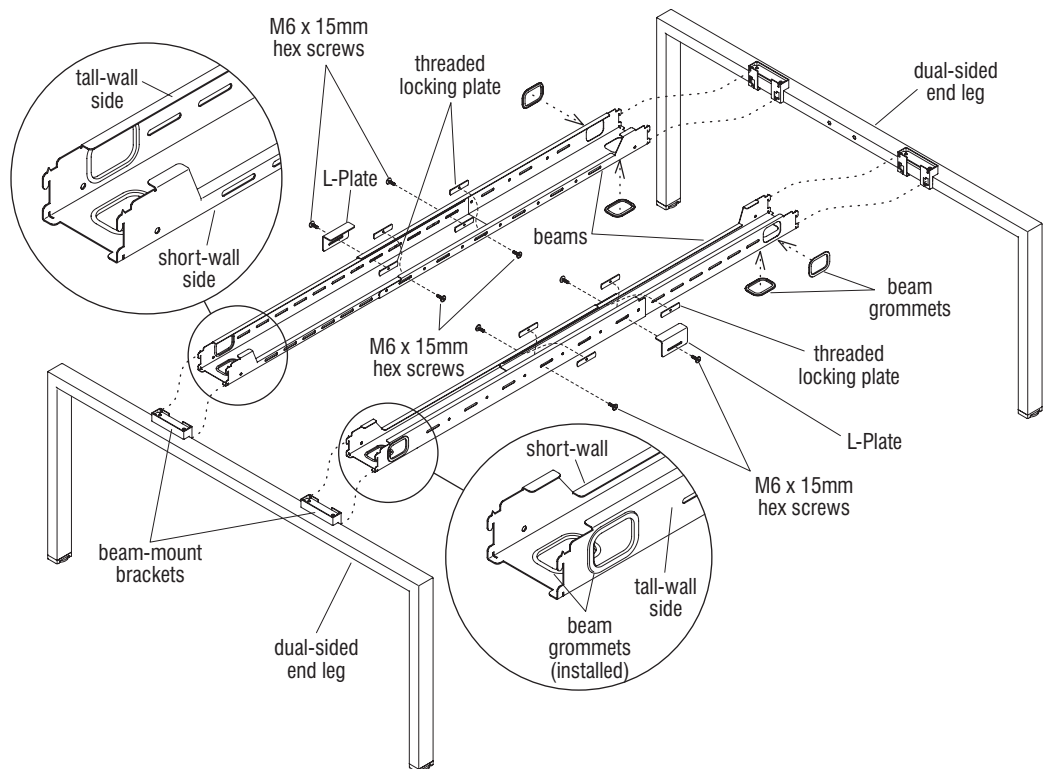
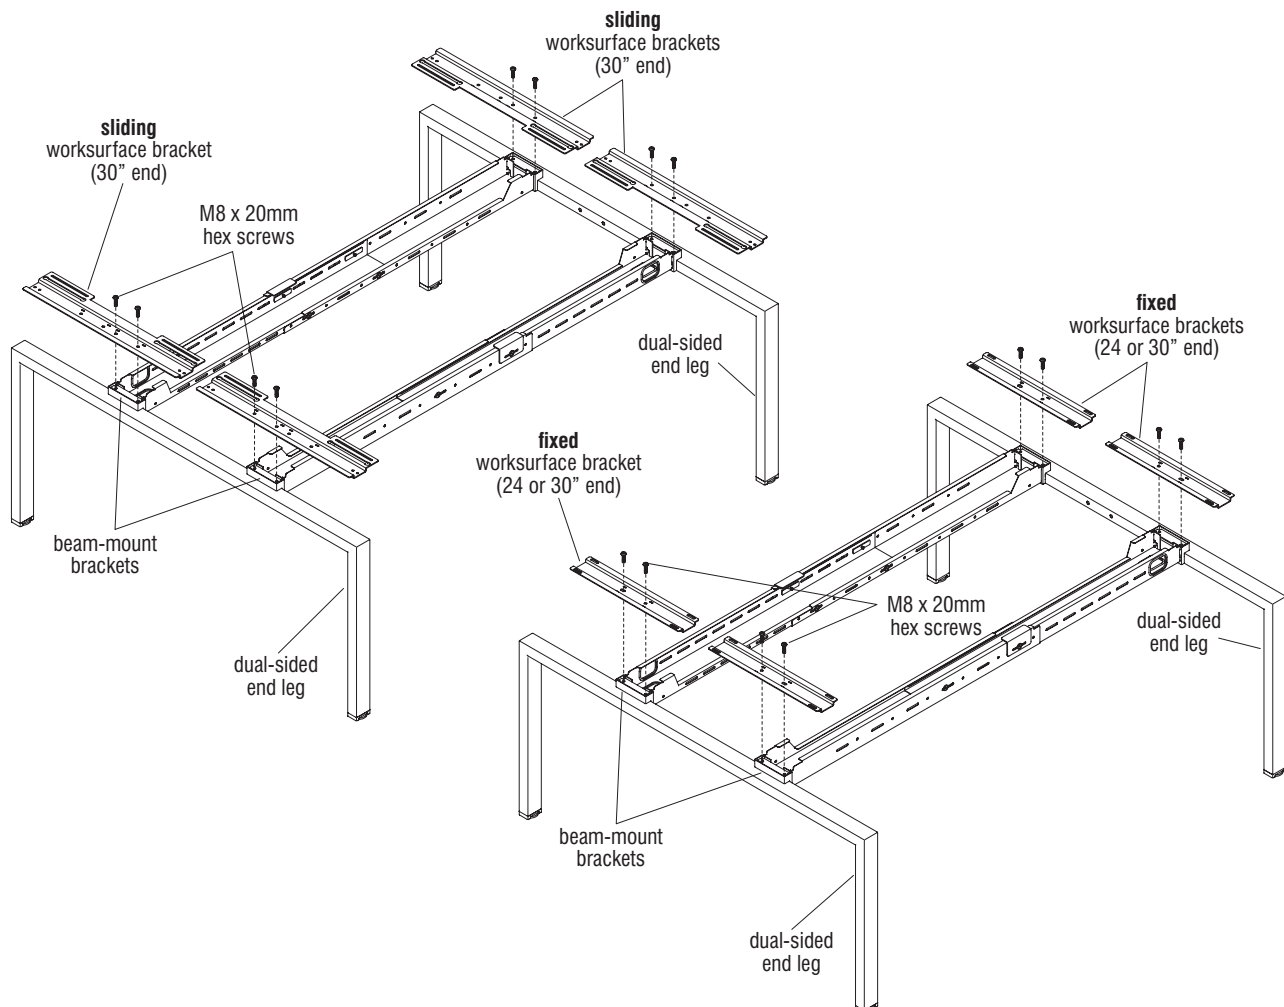
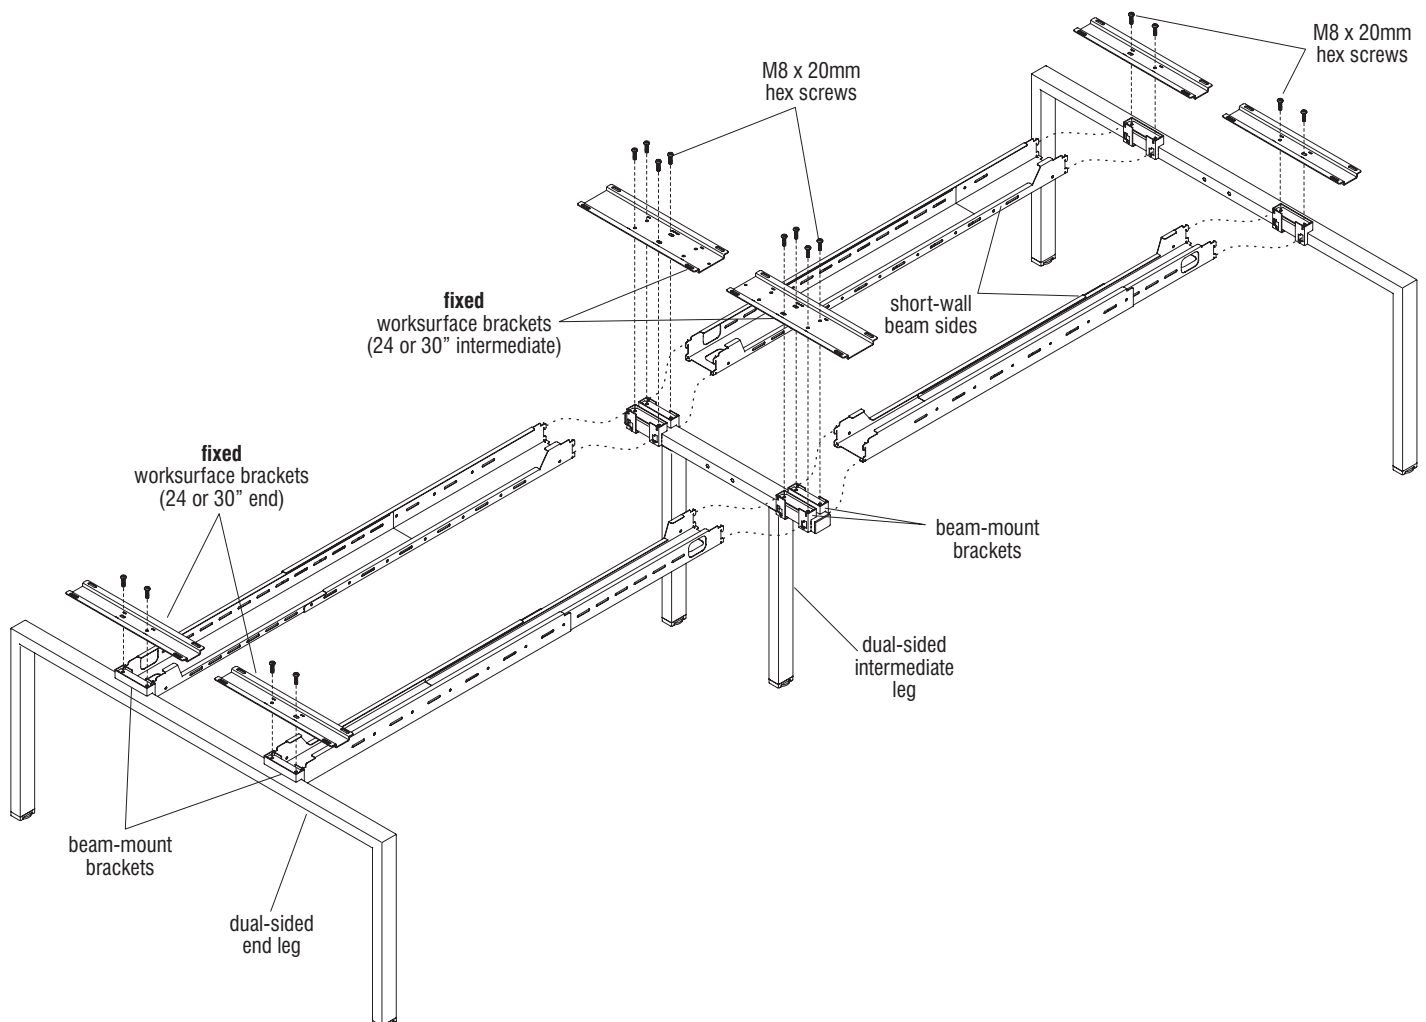
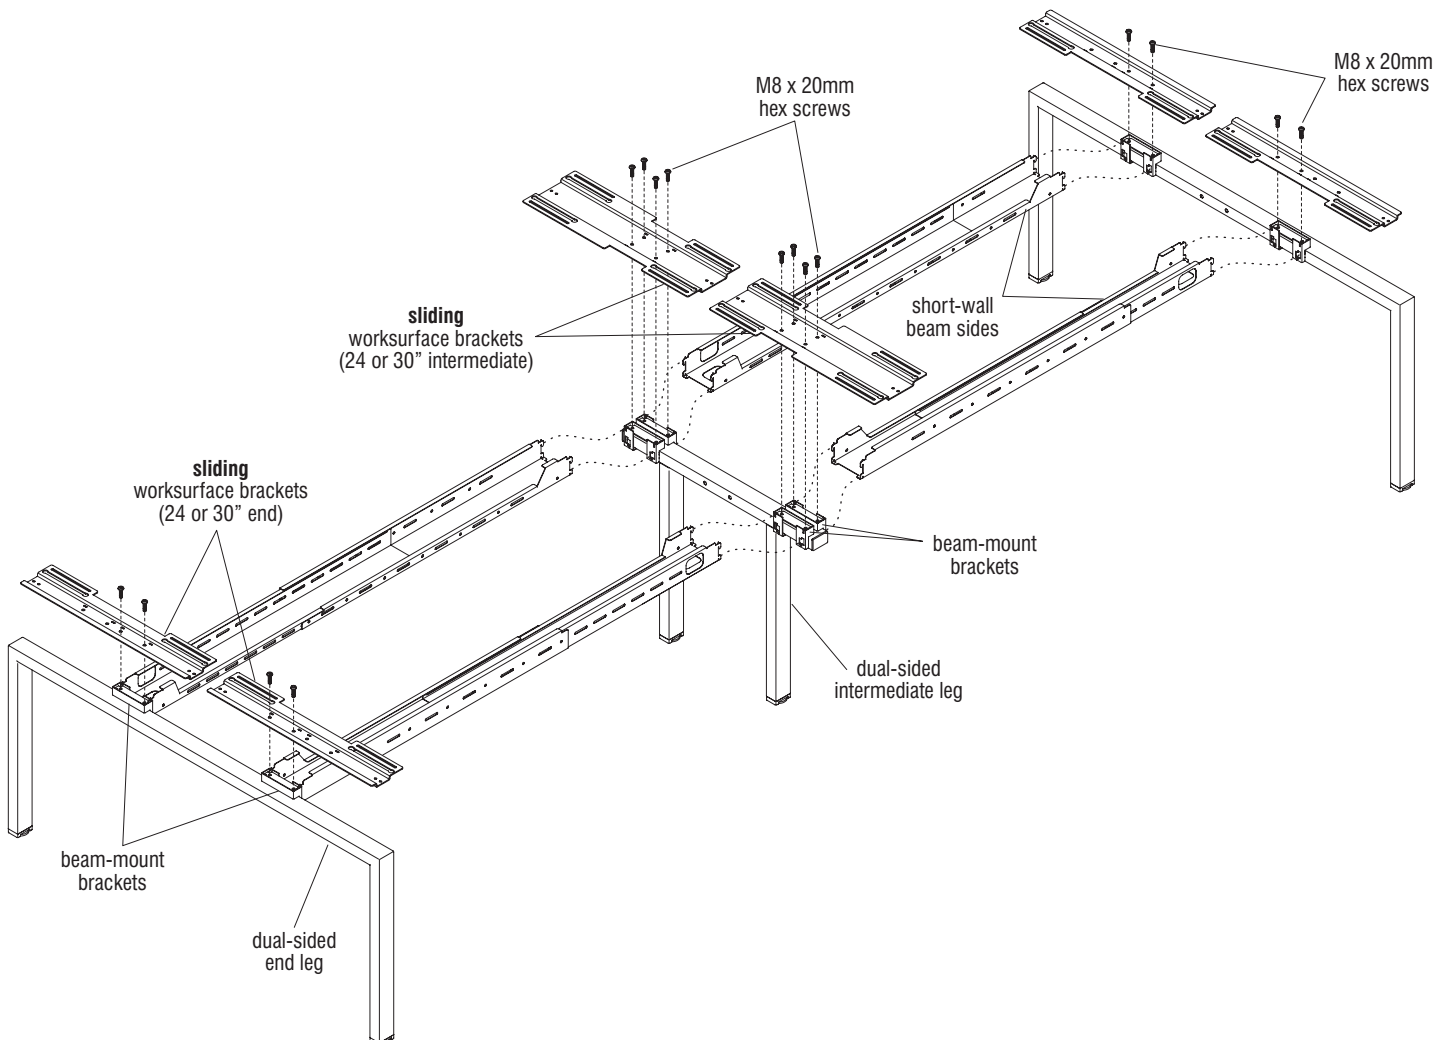

Figure 1 - Dual-Sided Stand-Alone Benching - Beams & Legs Assembly
Figure 2 - Dual-Sided Stand-Alone Benching - Worksurface Brackets
Figure 3 - Dual-Sided Multiple Workspace "Adder" Benching with Fixed Workspace Brackets
Figure 4 - Dual-Sided Row Multiple Worksurface "Adder" Benching with Sliding Worksurface Brackets
To achieve the correct length, measure from the far outside end of one end leg to the far outside end of the opposite end leg, or to the center of an intermediate leg if an adder is used (Figures 1 through 4).
side-to-side play, and be located nearest the ends of both inner and outer members to provide the greatest stability. **Twist screws in only finger-tight at this time** (Figure 1).
5. At both ends of the beam, install two plastic beam grommets into the beam wire-access holes, positioning the larger flange to the outside when nesting into place (Figure 1).
Depending on which option, either "fixed worksurface brackets", or "sliding worksurface brackets" will be installed. Refer to either step 7 or 8 below (Figure 2).
8. To install four **sliding worksurface brackets** to the "beam-mount brackets" at the top of each dual-sided leg, first position the bracket so mounting flange with the slots faces away from the legs, toward the center of the unit. Align the appropriate mounting holes of the sliding worksurface bracket with the threaded inserts in the beam-mount brackets and secure each using two M8 x 20mm hex-drive screws per sliding worksurface bracket (Figure 2).
9. Dual-sided intermediate legs (with four beam-mount brackets per leg) are used in multiple top, "adder" runs of benching (Figures 3 & 4). Attach beam pairs to intermediate legs per the space-planning layout and as described in steps 2 through 5 (Figures 1, 3 & 4).
Note: Figure 2 (previous page) shows dual-sided legs with "fixed" and "sliding" workspace bracket installation at "end" legs only. Figures 3 & 4 show dual-sided intermediate legs utilizing the wider intermediate workspace brackets ("fixed" at Figure 3 & "sliding" at Figure 4) installing to an "intermediate" leg (as well as "end" legs and end workspace bracket installation).
10. Reference step 7, previous page for installation of **fixed workspace brackets at end legs**. Install **fixed intermediate workspace brackets** to the two "beam-mount brackets" of intermediate legs by aligning the brackets as illustrated over the mounting holes, and using four M8 x 20mm hex-drive screws (Figure 3).
11. Dual-sided intermediate legs (with four beam-mount brackets per frame) are used in multiple top, "adder" runs of benching (Figures 3 & 4). Attach beam pairs to intermediate legs per the space-planning layout and as described in steps 2 through 5 (Figures 1, 3 & 4).
Note: Figure 2 (page 45) shows dual-sided support frames with "fixed" and "sliding" worksurface bracket installation at "end" legs only. Figures 3 & 4 show dual-sided intermediate legs utilizing the wider intermediate worksurface brackets ("fixed" at Figure 3 & "sliding" at Figure 4) installing to an "intermediate" leg (as well as "end" legs and end worksurface bracket installation).
12. Reference step 8, (page 45) for installation of **sliding worksurface brackets at end legs**. Install **sliding intermediate worksurface brackets** to the two "beam-mount brackets" of intermediate legs by aligning the brackets as illustrated over the mounting holes, and using four M8 x 20mm hex-drive screws (Figure 4).